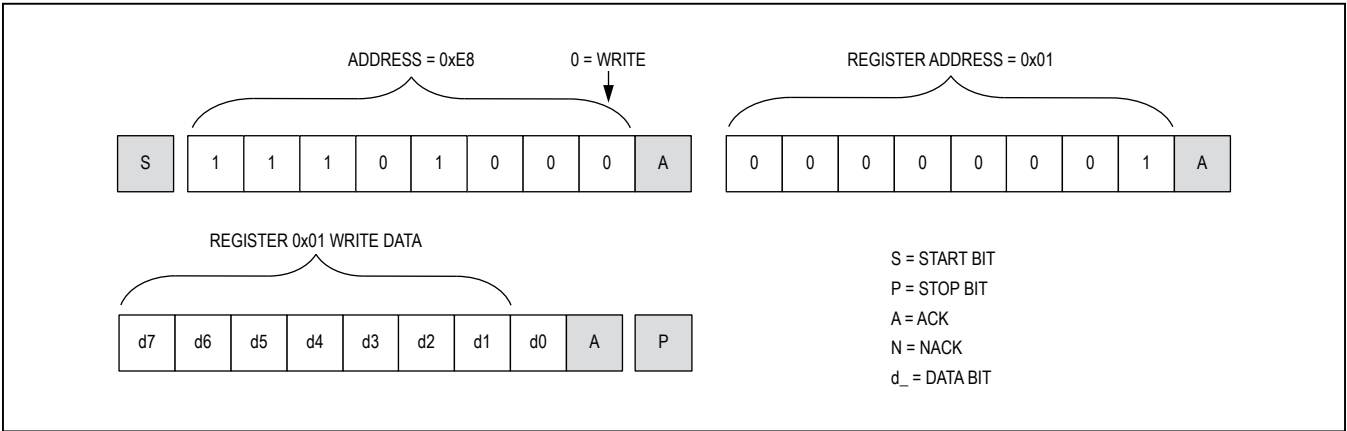
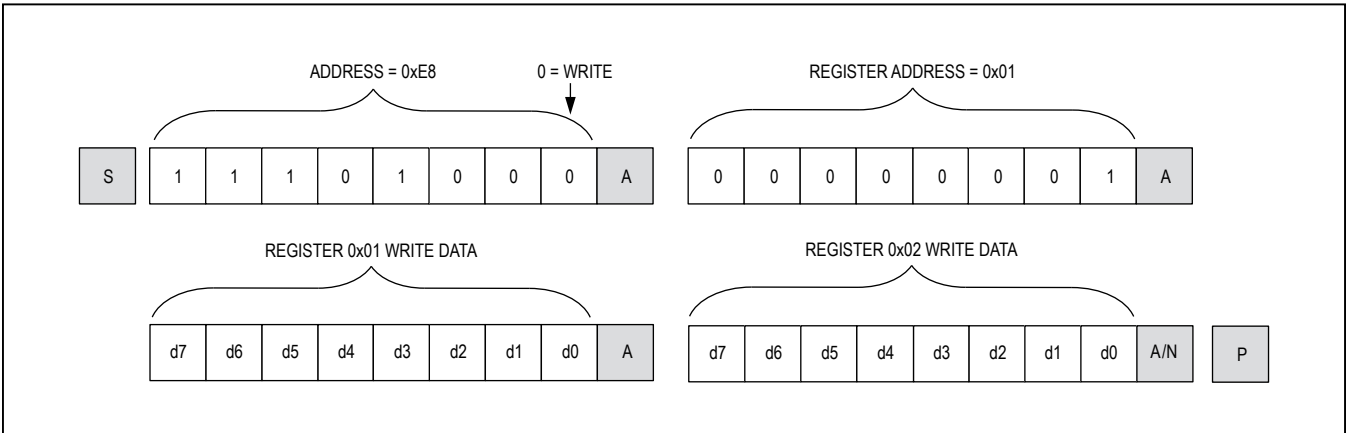
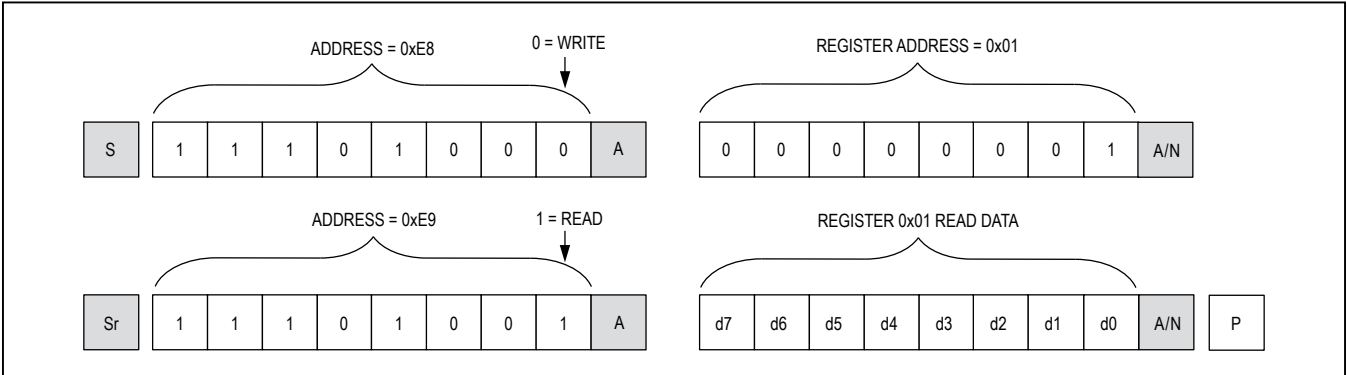

Figure 10. Format for I2C Write
Figure 11. Format for Writing to Multiple Registers
Figure 12. Format for Reads (Repeated START)
device is to be written by the next byte, if received. If a STOP (P) condition is detected after the register address is received, the device takes no further action beyond storing the register address. Any bytes received after the register address are data bytes. The first data byte goes into the register selected by the register address, with subsequent data bytes going into subsequent registers (Figure 10). If multiple data bytes are transmitted before a STOP condition, these bytes are stored in subsequent registers because the register addresses autoincrement (Figure 11).
The device is read using the internally stored register address as an address pointer, the same way the stored register address is used as an address pointer for a write. The pointer autoincrements after each data byte is read using the same rules for a write. Therefore, a read is initiated by first configuring the register address by performing a write (Figure 11). The master can now read consecutive bytes from the device, with the first data byte being read from the register address pointed to by the previously written register address (Figure 12). Once the master sounds a NACK, the MAX14724 stops sending valid data.